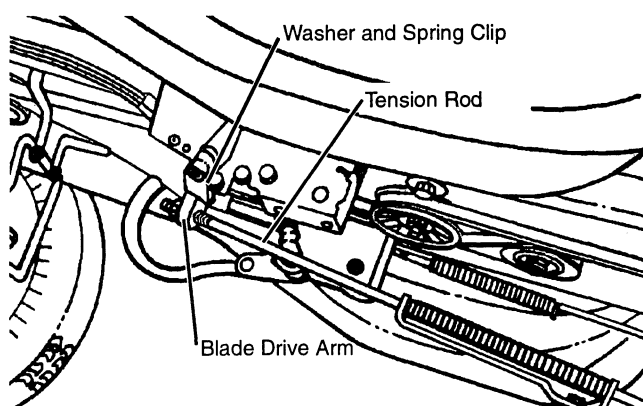

FIG. 49
- Remove spring pin clip and washer holding tension rod to blade drive arm. (See Fig. 49 and 50)